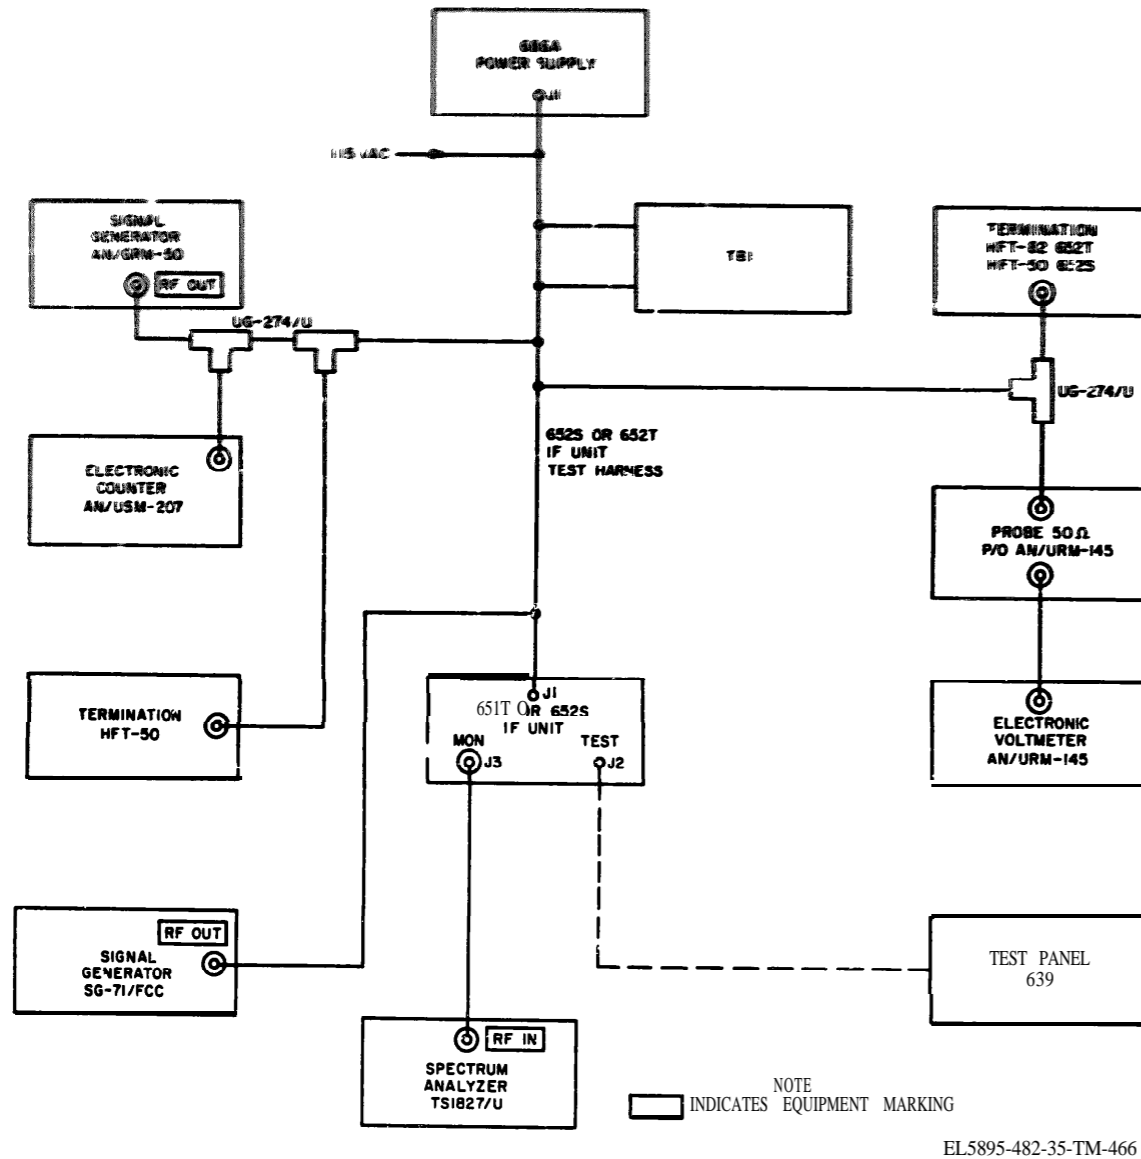

Figure 5-186. 652S and 652T if unit audio amplifier and modulator alignment. test setup diagram
a. Connect 652T if. unit in test setup as shown in figure 5-186.
- Connect the equipment as shown in figure 5-186.